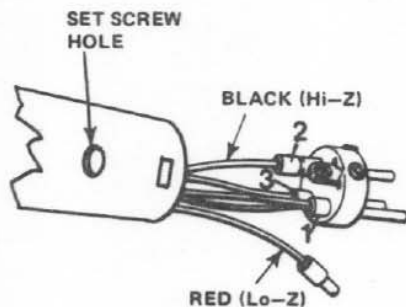

FIGURE 3 – Changing Impedance
The 660 output may be either balanced low impedance or high impedance. To select impedance: (1) Turn the setscrew in the connector insert counter-clockwise (it is a reverse-threaded screw and will not come out, but rather disappear into the insert). (2) Pull the insert out from the end of the microphone, exposing the wires which are connected to it (see Fig. 3). For high impedance, be sure that the black wire is attached to Pin 2 of the connector insert (a small connector sleeve slides over Pin 2 to assure firm connection). For balanced low-Z (150 ohms) remove the black wire from Pin 2 and attach the red wire to Pin 2 by means of the sleeve type connector provided (see Fig. 3).